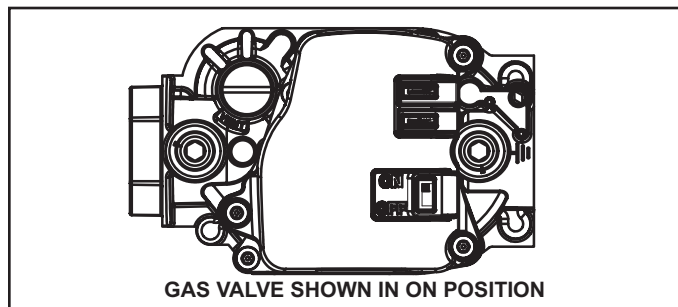

FIGURE 2
Operating the Gas Valve (Figure 2)
- 6 - Move switch on gas valve to OFF. See figure 2.
- 8 - Move switch on gas valve to ON. See figure 2.